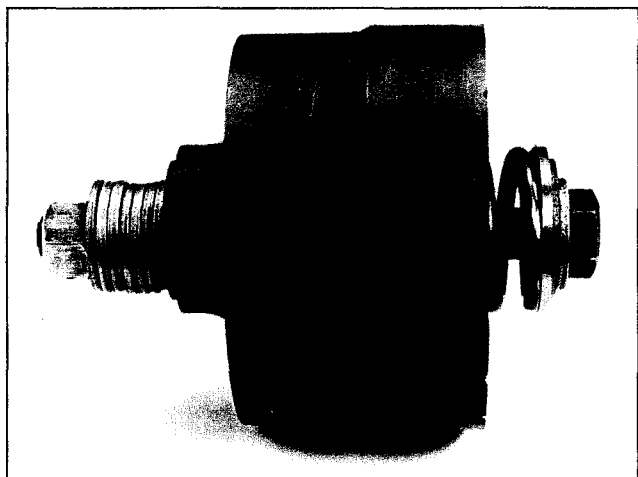

Figure 14. Cylinder Block Subassembly Disassembly Tool. (Tighten nut, remove snap ring, loosen nut to relieve spring tension.)
The spring located within the cylinder block S/A is under a high tension and can cause bodily harm if the retaining ring is removed. See Figure 14 for disassembly instructions.
- a. Assemble the spring, two washers and retaining ring into the cylinder block. The washer with three notches is assembled next to retaining ring. See Figure 14 for instructions. Set the cylinder block S/A (34) face on a flat clean surface. Use Kraft paper between the block and surface to prevent scratching the cylinder block face.
- b. Install pin retainer (40) into cylinder block. Position the pin retainer approximately $\frac{1}{4}$ " below the surface, and orient the open end of the pin retainer to be away from the large spline openings.
- c. Slide the three pins (39) into cylinder block S/A (34) until they bottom against the spring washer within the block.
- d. Place spherical washer (41) on top of the three pins, then install shoe plate (42) with nine piston and shoe subassemblies (43) over spherical washer (41) and into cylinder block. Wobble shoe plate (42) to make sure that each piston is free within its bore in the cylinder block.
- e. Set housing (27) on its side and hold pump shaft (48) horizontal. Slide rotating group into the housing. Rotate the shaft to match the shaft splines to the cylinder block and spherical washer.
5. If alignment pins (31) were removed, install two alignment rollpins (31) into housing (27). Place gasket (30) over the rollpins, cover with Kraft paper and set aside for final assembly.